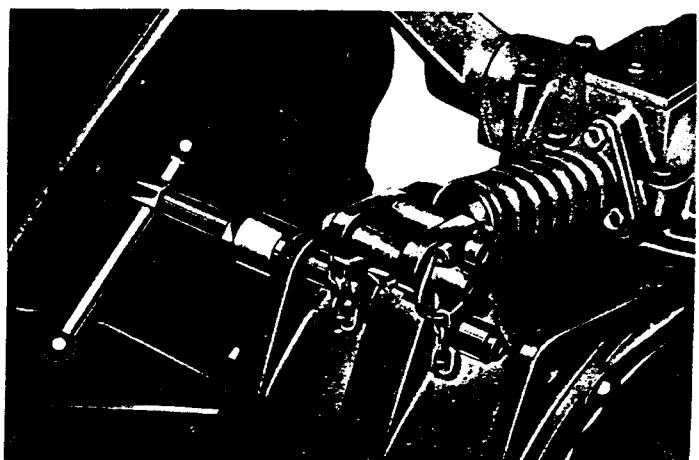

FIG. 37.
### CONTROL SPRING ROCKER BUSH REMOVER/REPLACER FT. 99, FIG. 37.
1. Insert stem of Service Tool through L.H. outer web with thrust bearing and nut outside web, as shown in Fig. 37, and screw cap on to end of stem.